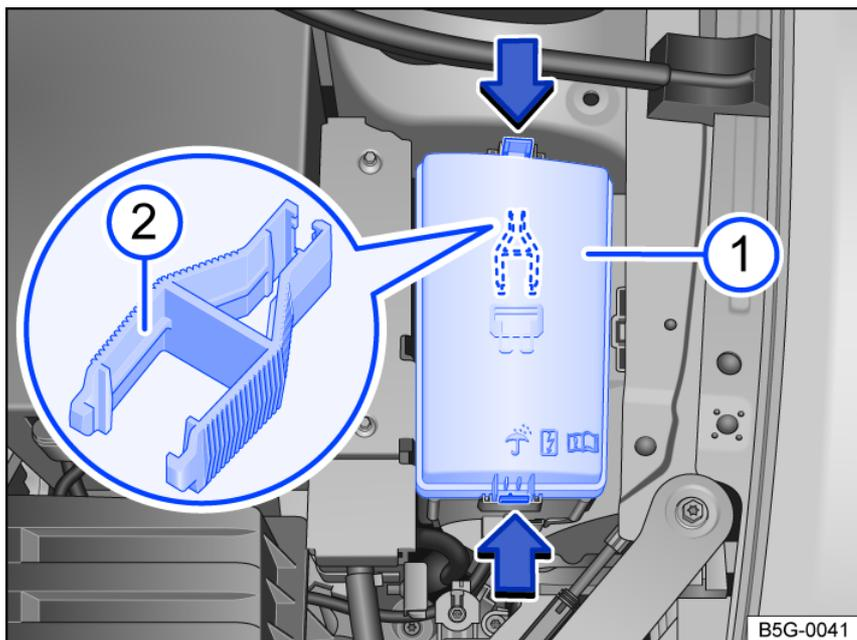

Fig. 182 In the engine compartment: Fuse box.
- ① Fuse box cover.
- ② Plastic pliers for pulling out fuses.
The plastic pliers *fig. 182* ② for removing fuses can be found on the inside of the fuse box cover or on the fuse panel.
2. Press the catches in the direction of the arrow *fig. 182* ① to release the fuse box cover.